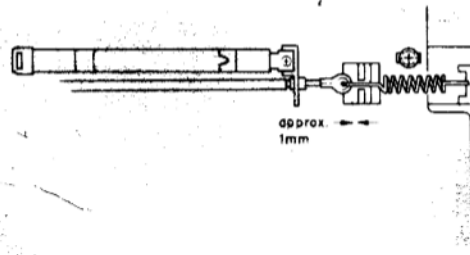

Fig. 5.14.2
- (3) Set the N-480 in record and pause mode. Check to insure that the gap between the top of the wire and the Record Spring Holder is approx. 1 mm as shown in Fig. 5.14.2. (Check that the Record Switch is in record position.)
- (4) Upon completion of the above adjustments, apply a quantity of lock tight paint.